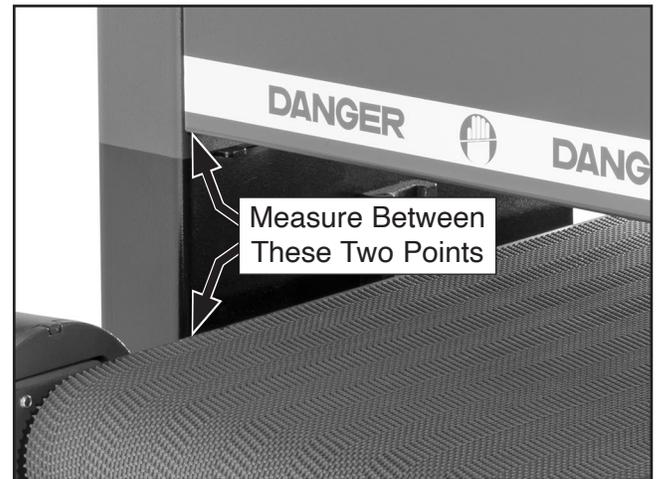

Figure 92. Distance to measure at rear right corner.
6. Take precise measurements between edge of conveyor table and upper frame at each of the remaining (3) corners (see **Figure 92**).